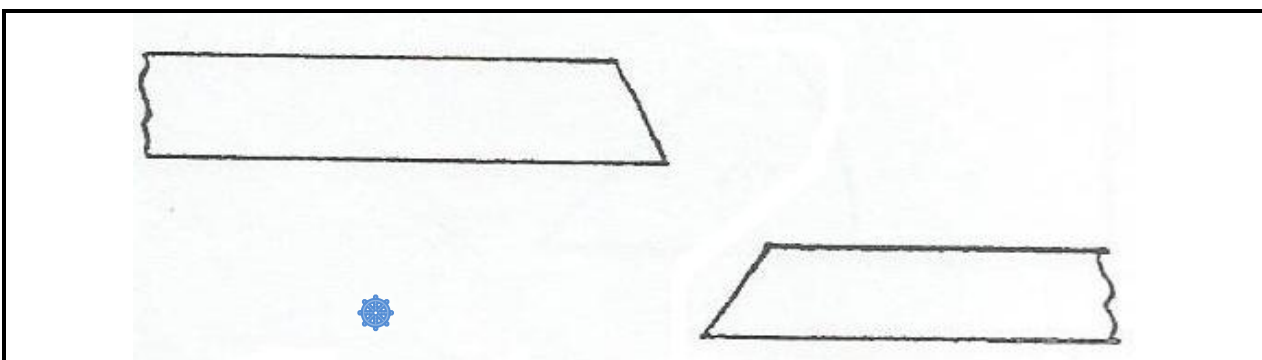

FIGURE 3
3.3 FIGURE 3 below, shows two plate edges with a wide gap between them.